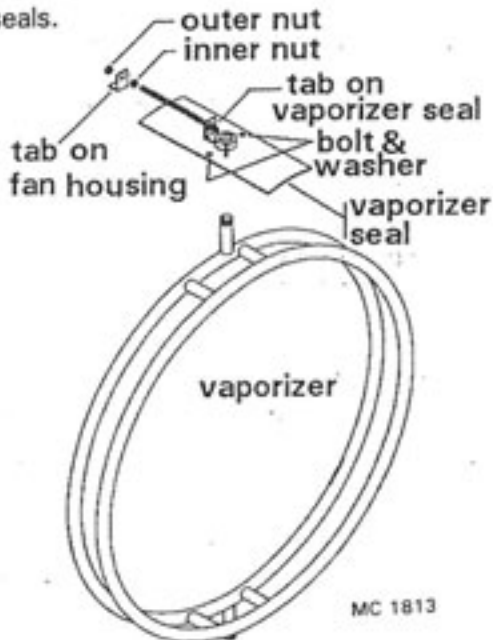

Figure 18 - Adjustable Vaporizer
- E. **Adjustable Vaporizer** - At top and bottom of the fan housing, there are vaporizer adjusters, see Figure 18. There are two bolts on each of the vaporizer seal plates that have to be loosened. Loosen the two adjusting nuts at the tab welded to the fan housing at top and bottom, see Figure 18. Turn outside nut at top, and inside nut at bottom, to move vaporizer closer to flame. Turn inside nut at top, and outside nut at bottom, to move vaporizer away from flame. Keep the vaporizer vertical in the fan housing by moving top and bottom adjusters the same amount, but in opposite directions. Tighten both inner and outer nuts when adjustment has been made. Tighten two bolts on each of the vaporizer seals.
2. Turn the "T" handle on the modulating valve IN to INCREASE temperature and OUT to DECREASE temperature. See Figure 18. There is a temperature gauge on the side of the control cabinet for each burner.